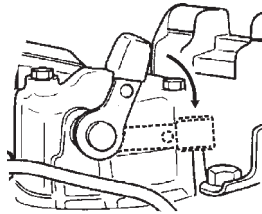

Figure 12. Decompression Lever
4. Push down decompression lever (Figure 12) and release.